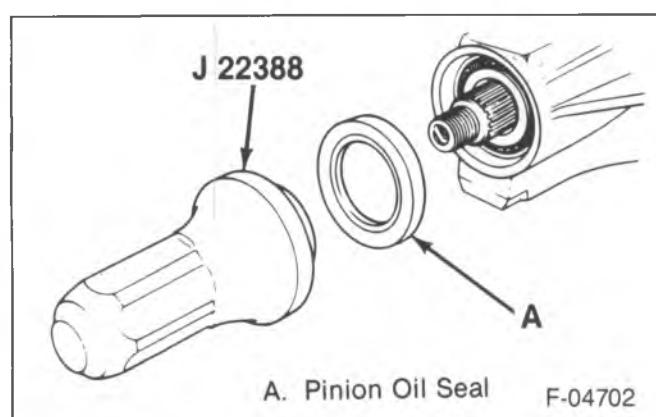
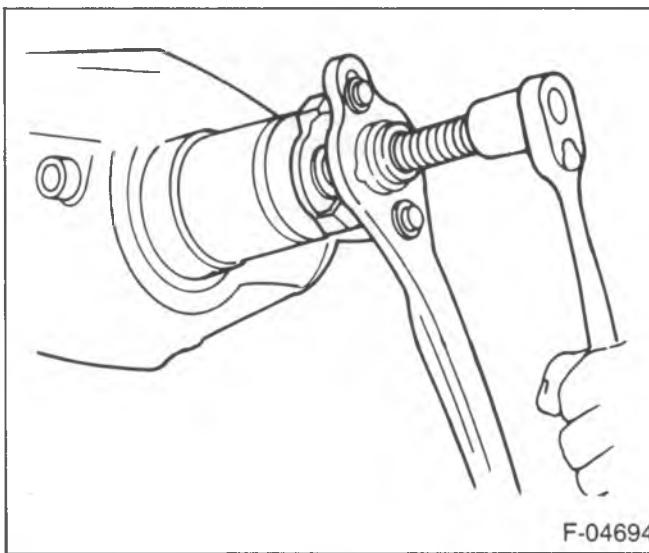

Figure 14—Installing the Pinion Oil Seal
Figure 15—Installing the Pinion Flange
- 1. The pinion inner bearing (5) using J 8609-01.
- 2. A new collapsible spacer (4).
- 3. Pinion (7) to the axle housing.
- 4. Outer pinion bearing (39) onto the pinion using J 5590.
- 5. Pinion oil seal (38) using J 22388 (figure 14).
- 6. The pinion flange (37) to the pinion by tapping it with a rawhide hammer until a few threads show through the pinion flange.
- 7. The pinion washer (36) and a new nut (35) while holding the pinion flange with J 8614-01 (figure 15).